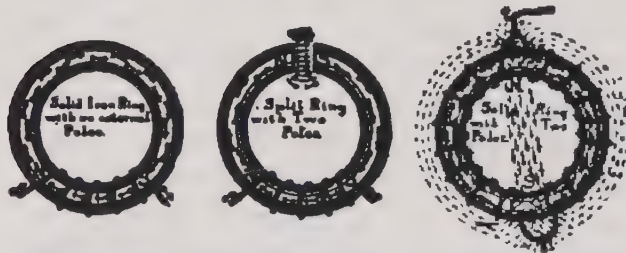

Fig. 101. Magnetic Polarity of an Iron Ring.
*Answer.* Yes. Make an electro-magnet of a ring of iron and a coil wound on as in Fig. 101 A. It will show no polarity at all, and be only slightly magnetic. Saw out a piece of the metal and the ring will develop polarity at N. and S. as shown in B.
*Question 29.* Why was there no polarity in Fig. 101 A?
*Question 30.* Why did Fig. 101 B show polarity?
*Question 31.* Why should Fig. 101 C develop poles at opposite sides of the ring and why should it show so much magnetism in the air around it.
Figs. 101 B and C show open circuits. In C the iron is a continuous ring but there are two magnetic circuits each composed of a half ring of iron and an air space across which the flux passes.
In Fig. 86 the addition of the second magnet gives a result something like that shown in Fig. 101 C. The flux from the two N-poles which passes between the magnets is very weak and does not magnetize the nails sufficiently. The greater part of the flux goes back outside of the magnets.